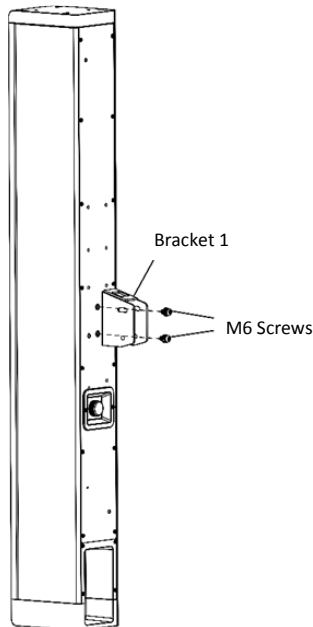

Figure 3-1 Fix Bracket1 to Column Speaker
4. Fix the bracket 1 to the column speaker with two supplied M6 screws as shown in Figure 3-1.